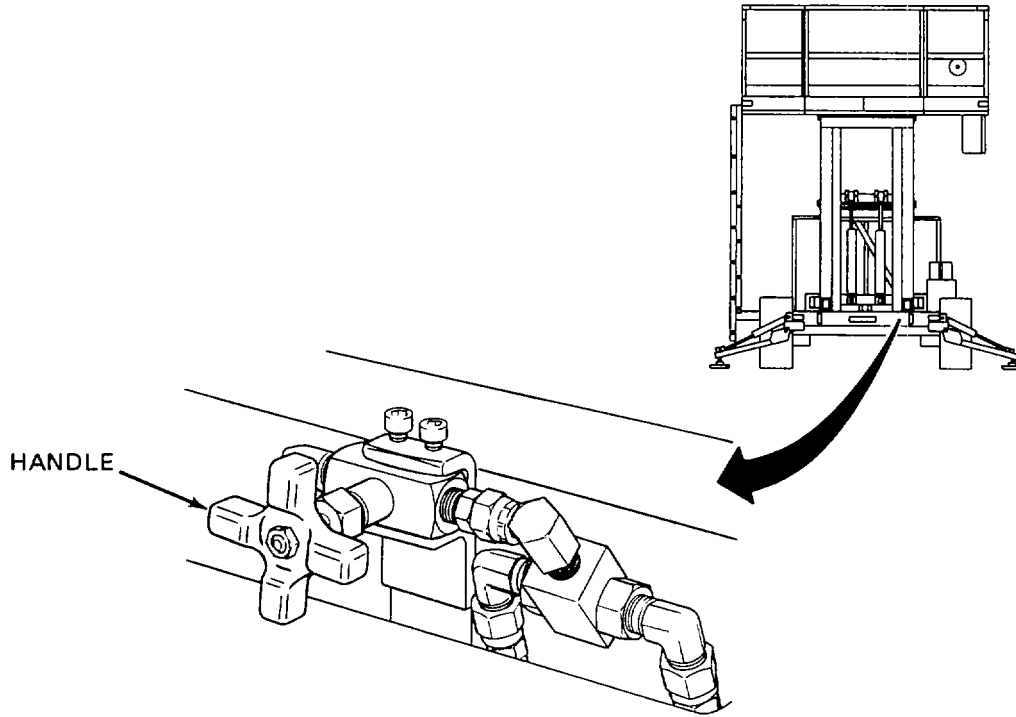

Figure 2-28. Steering Bypass Valve.
- (7) Turn steering bypass valve handle (located on the front frame) fully counterclockwise to neutralize the steering cylinder. See Figure 2-28.
- (3) Turn the steering bypass valve fully clockwise. See Figure 2-28.